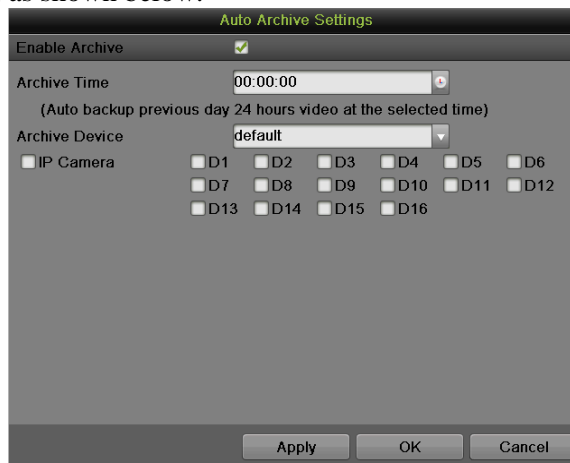

Figure 153 Auto Archive Settings Menu
2. Select the Record Information tab, as shown in Figure 153.